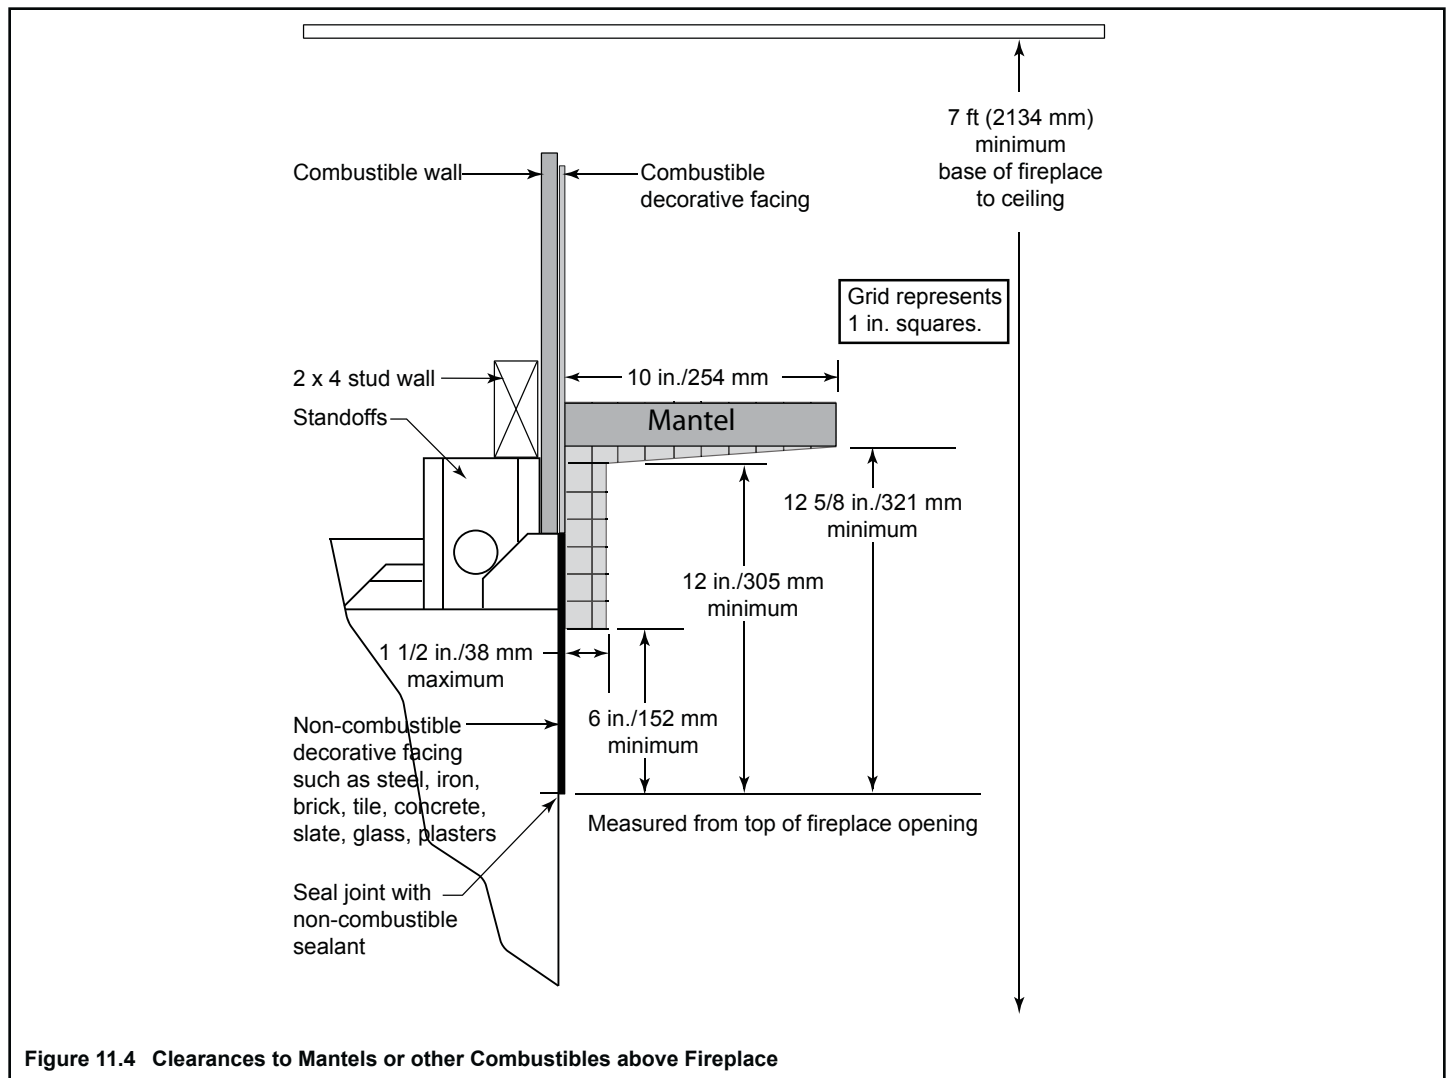

Figure 11.4 Clearances to Mantels or other Combustibles above Fireplace
- Refer to the shaded areas of Figure 11.4 for locations and dimensions of a combustible mantel.